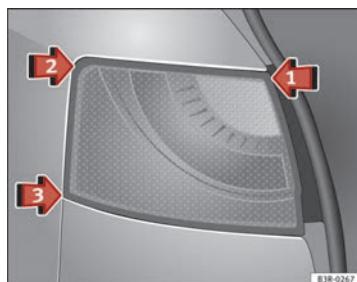
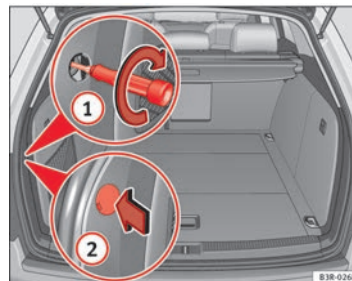

Fig. 229 Fitting the tail light unit
Fig. 230 Luggage compartment: Location of the bolt securing the tail light unit
- First place the tail light unit in ⇒ Fig. 229 arrow ① in the housing.
- Gently press the tail light unit against the housing, first in position ② and then in position ③, until that the clips engage firmly in the rubber mountings.
- Apply gentle pressure to the upper part of the tail light unit and secure using the screwdriver, from the luggage compartment ⇒ Fig. 230 ①.
- Fit the cover back onto the screw, with the notch pointing to the rear ②.